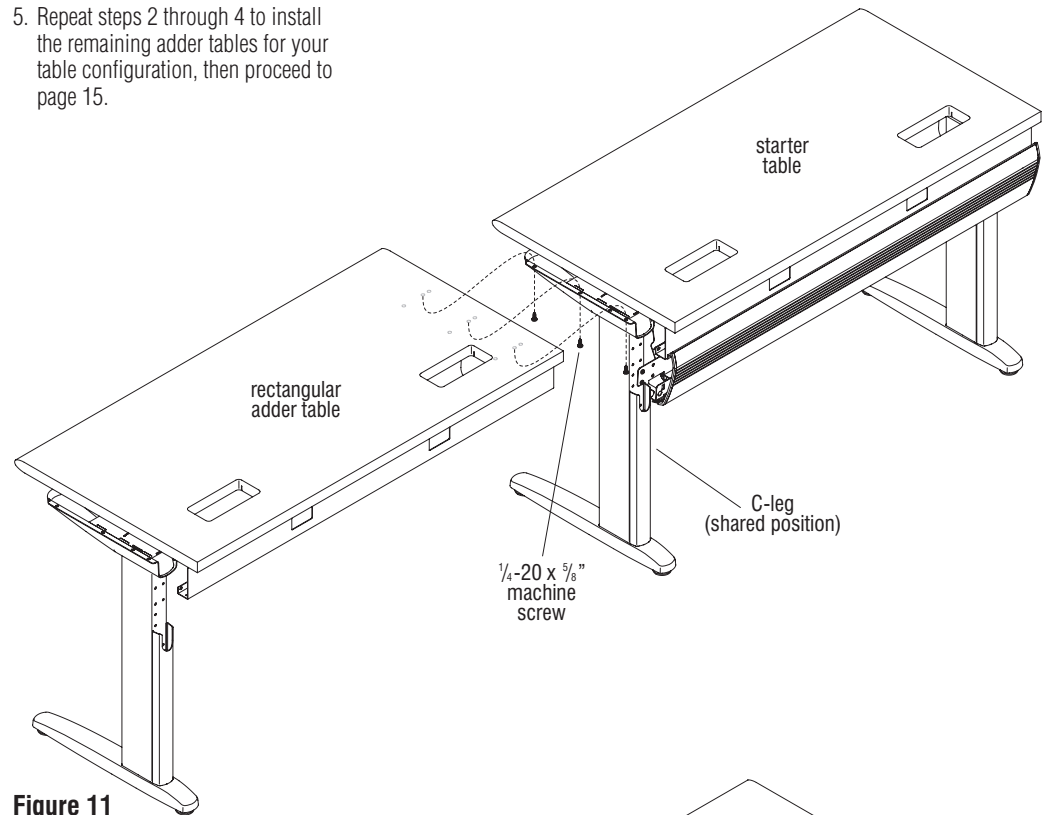

Figure 11
Note: The order of assembly can be reversed depending on your configuration, but for consistency in these instructions, all tables will be assembled from left to right. When positioned at a table at the user side, a starter table is the left-hand table and begins the run of ganged tables with one end-of-run leg and one shared leg (Figure 11).
1. Carefully turn the starter table to the upright position and move the table to its approximate final location of use (Figure 11).
3. With the assistance of a second person, carefully turn the adder rectangular table, to be connected to the next table in your configuration, to the upright position. Rest the no-leg end of the worksurface or wheelchair accessible kit onto the shared leg of the previous unit. Align the mounting holes on the leg with the adder worksurface or kit holes and secure together using three $\frac{1}{4}$ -20 x $\frac{5}{8}$ " machine screws. If the screws are securing the legs to the wheelchair kit, at the threaded end of each bolt, twist a $\frac{1}{4}$ -20 nut on until snug (Figure 11 & Detail N).